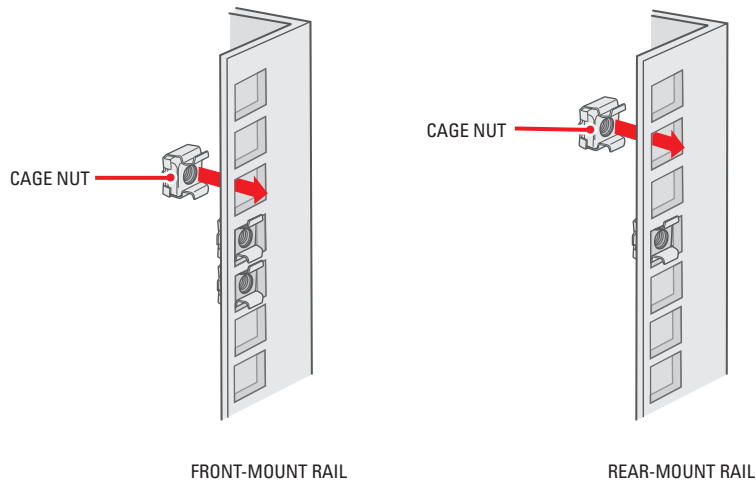

Figure 8. Inserting Cage Nuts
4. *If you are installing the unit into a square-hole rack:* Insert 10 cage nuts into the square-hole rack as shown in Figure 8. Align the top and bottom cage nuts on the front racks with the top and bottom cage nuts on the rear racks.